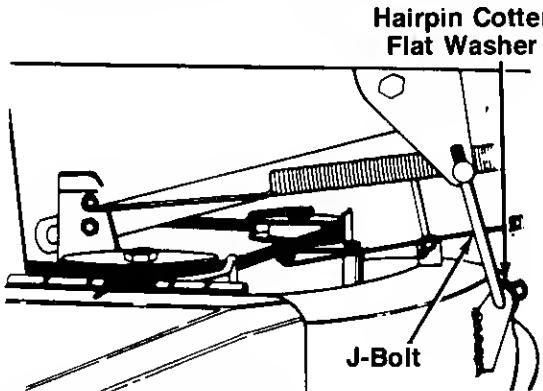

FIGURE 25B.—Model 13518
3. If the front is not between $1/4"$ and $3/8"$ lower than the rear, remove the hairpin coppers and flat washers which secure the J-bolts to the front of the deck, both right and left sides. See figure 25B. Thread the J-bolts into or out of the ferrules as necessary.